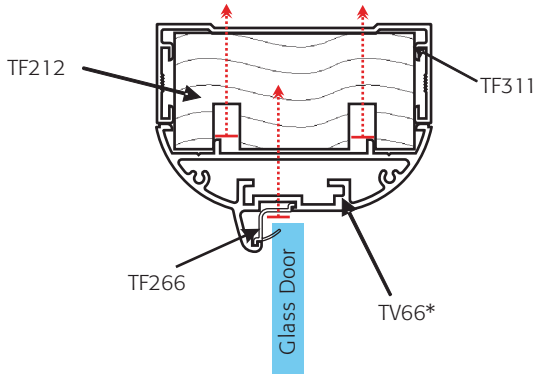

Fig. 3
- 5 For information on how to fit a door into this head channel configuration please see Fig. 3 on page 10.
### Method of build fig.3
- 2 Once the TF311 & TV616 head channel are fixed in place fix three TF212 timber packers into TF311 where the TV66\* door frame head will be positioned. Once the TF212 packers are in place, fix through the door frame as shown in fig 3 above.